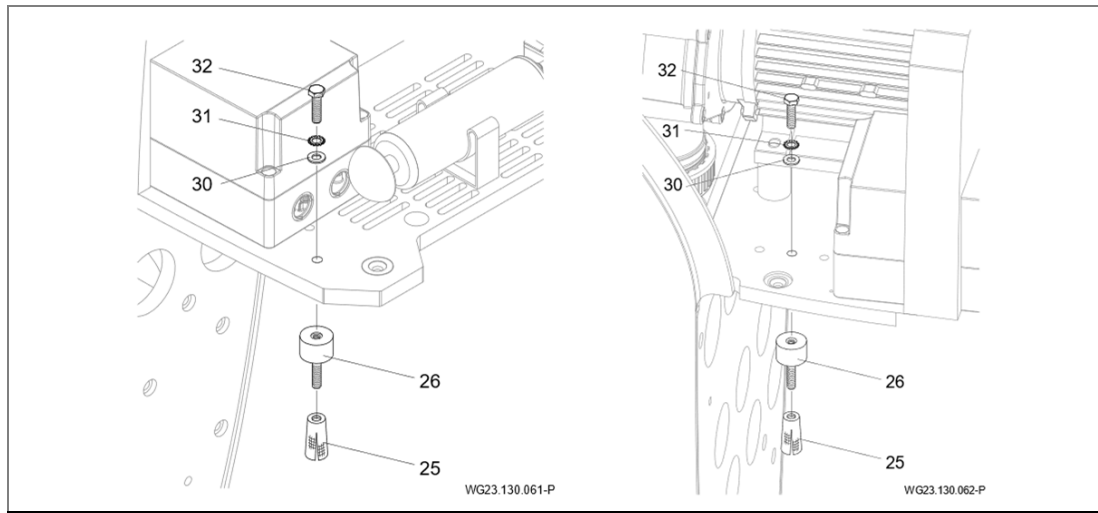

Fig. 6
- Insert brass dowels (25) and screw on the metal vibration buffers (26). "Fig. 6" on page 20 and .
- Set the unit on the metal vibration buffers and secure it with hexagonal bolts (32), toothed locked washers (31) and flat washers (30). "Fig. 6" on page 20.